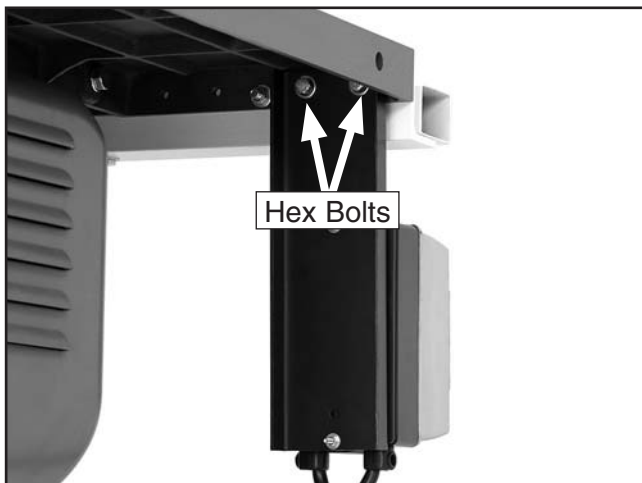

Figure 8. Installed switch.
1. Bolt the switch bracket to the underside of the rail with the hex bolts and washers as shown in **Figure 8**.